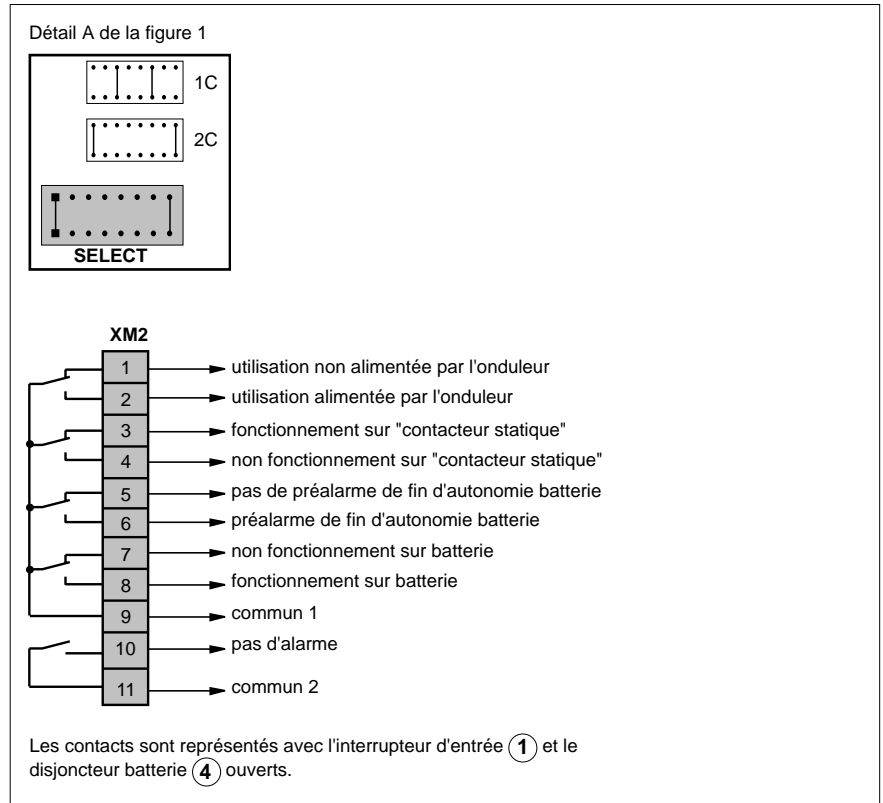

Fig.3
▶ configuration 2c (2 communs, voir figure 3).